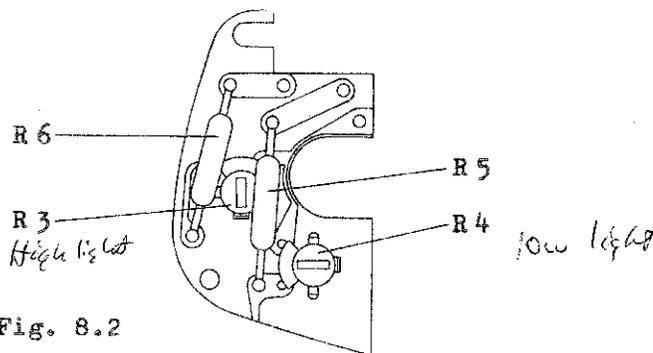

Fig. 8.2
The two dots (previously circles) of the Fresnel lens and the follow pointer will become visible on the groundglass screen of the exposure meter. Rotate the DIN-cam, so that the follow pointer points at the lower point (circle). Alternately check the slits (LW 14, 8 and 4) boldly drawn in Fig. 6.1. Measuring pointer and follow pointer must coincide in all positions. A correction of the light value 14 can be achieved by rotating the layer resistance R3 (see Fig. 8.2); the light value 8 can be corrected by rotating the layer resistance R4.
Unsolder the layer resistances of the printed circuit (see Fig. 8.2) and remove the pentaprism.
Depress key 8 and set the measuring pointer precisely at the light value 8 by rotating the layer resistance R4 (see Fig. 8.2).
Solder in the layer resistances indicated on the resistance selector switches R5 and R6 (see Fig. 8.2).